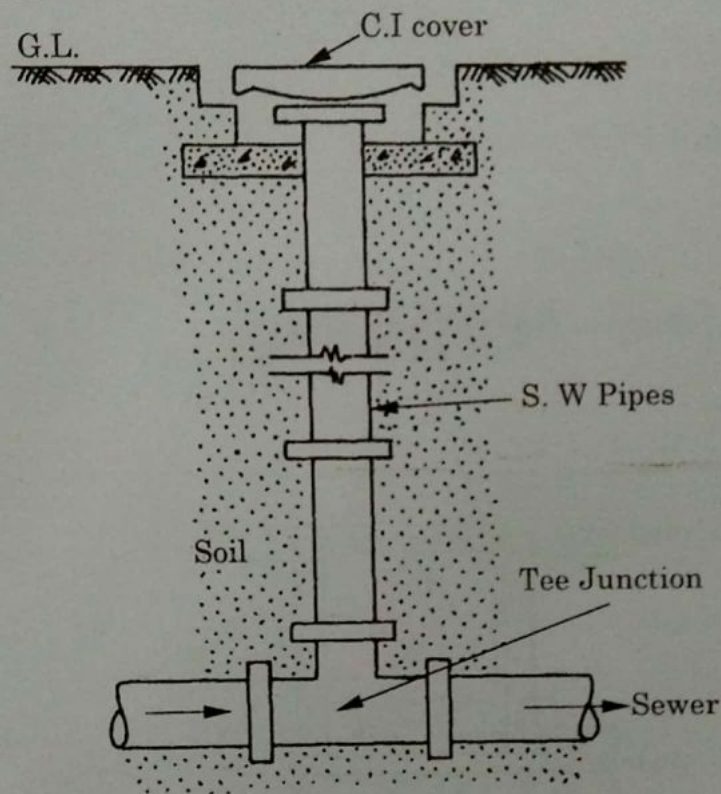

Fig. 9.20 : Lamphole
**Construction:** Lamphole consists of a cast iron pipe. This pipe is connected to sewer line through a T-junction as shown in Fig. 9.20. The diameter of lamphole varies from 200-300 mm.